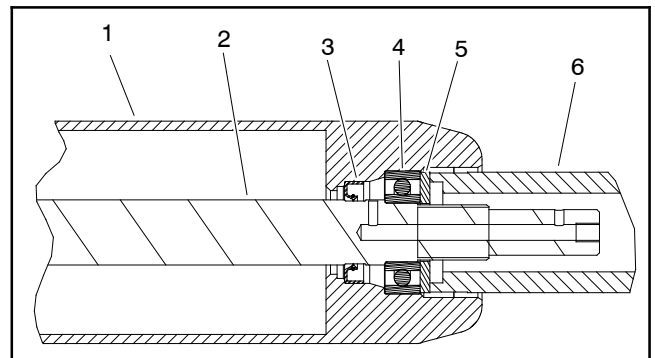

Figure 42
B. Use washer and bearing/outer seal tool (see Special Tools in this chapter) with a soft face hammer to fully seat bearing (Fig. 42). After bearing installation, make sure that shaft freely rotates and that no binding is detected. If necessary, lightly tap bearing and/or shaft ends to align shaft and bearings. Remove washer from roller.